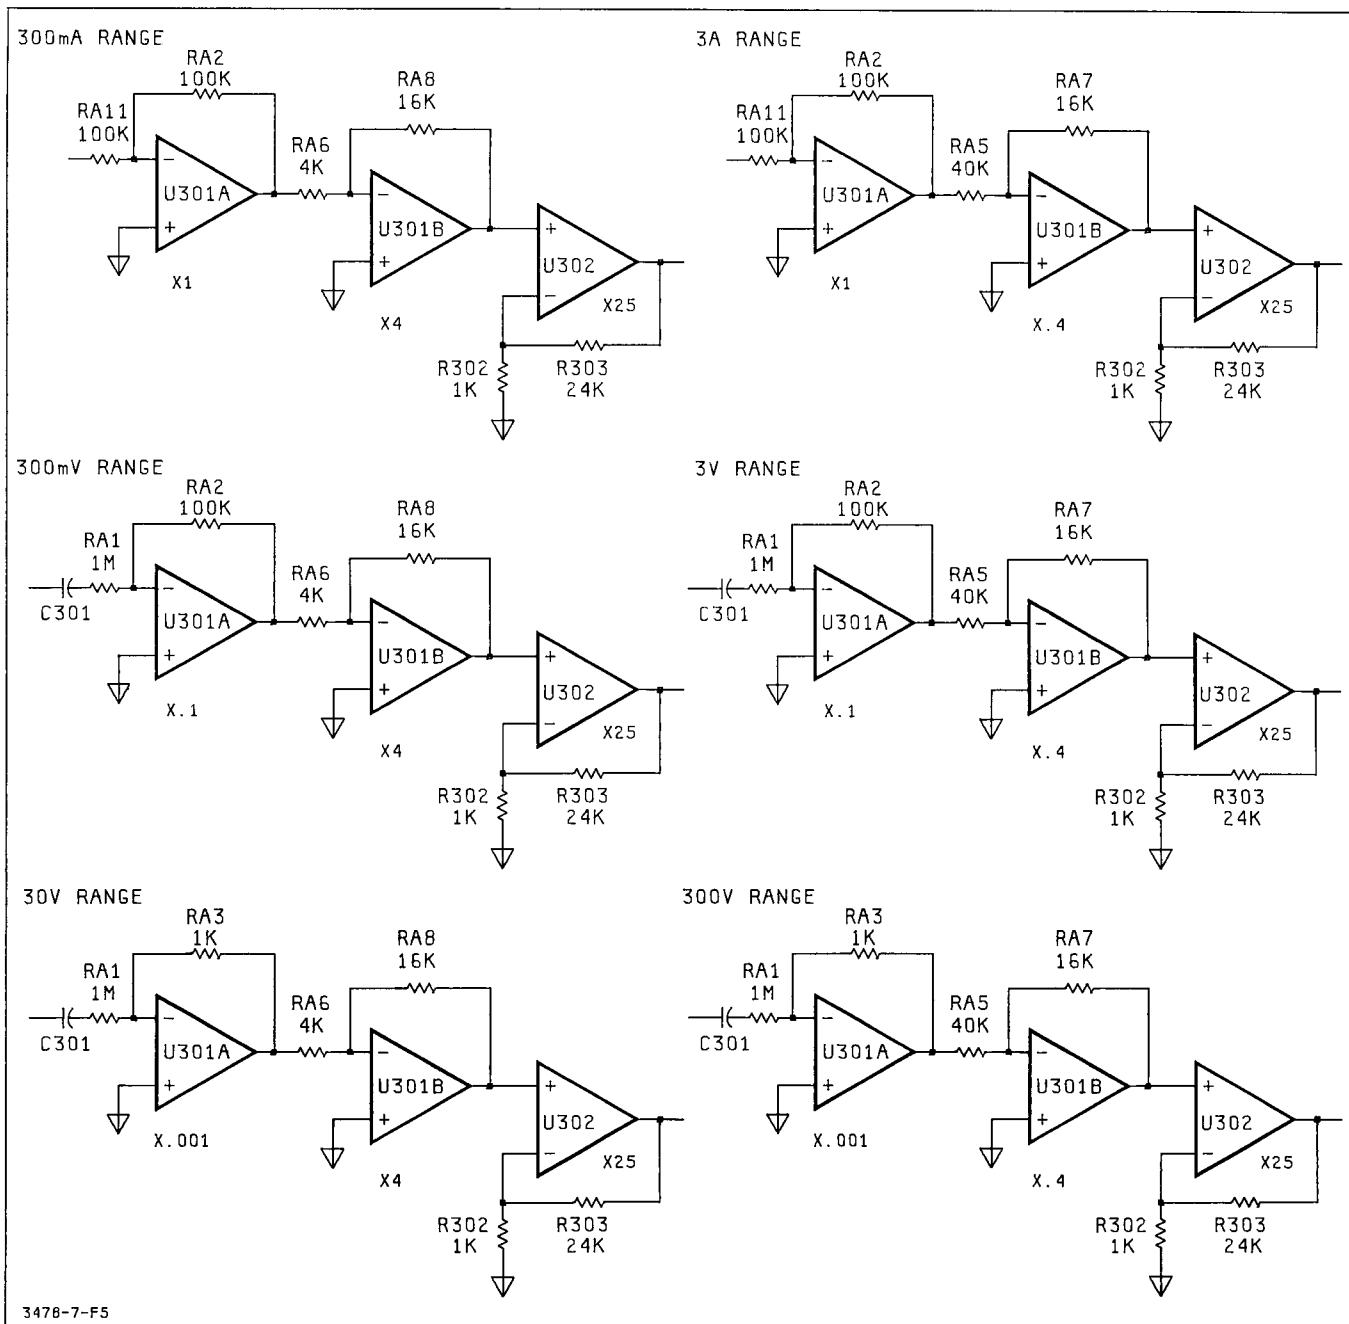

Figure 7-F-5. AC Gain Configurations
**7-F-28. Amplifier Stages.** Refer to Figure 7-F-5 and Schematic 2 for the following explanation.
a. The first amplifier stage (U301A) is an inverting amplifier with gains of X.001, X.1, or X1 (dependent on the ac range and function selected). The gains are determined by resistors RA1, RA2, RA3, and RA11 (all in U102), as shown in Figure 7-F-5. Capacitor C302 and resistor R305 are used for high frequency compensation (for flat gains at high frequency). The gain determining resistors are selected by MOSFETS S1AC through S6AC, and S11AC (all in U102) which operate as switches. The gains of the amplifier and FETs selected for the ac functions are listed in Table 7-F-2.